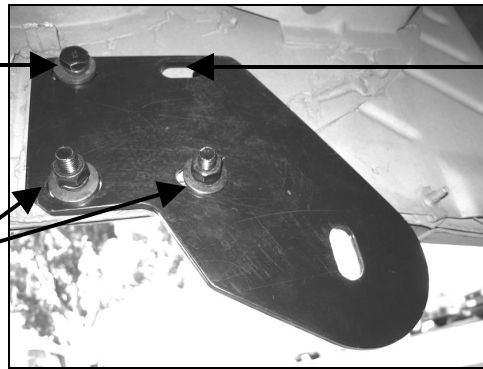

Figure 2
- Loosely attach the upper side of the Mounting Brackets to already installed Clip Nuts by using (2) 10-1.50mm x 40mm Hex Head Bolts, (2) 10mm Flat Washers, and 10mm Lock Washers on each Mounting Bracket (*Figure 2 & 3*)..